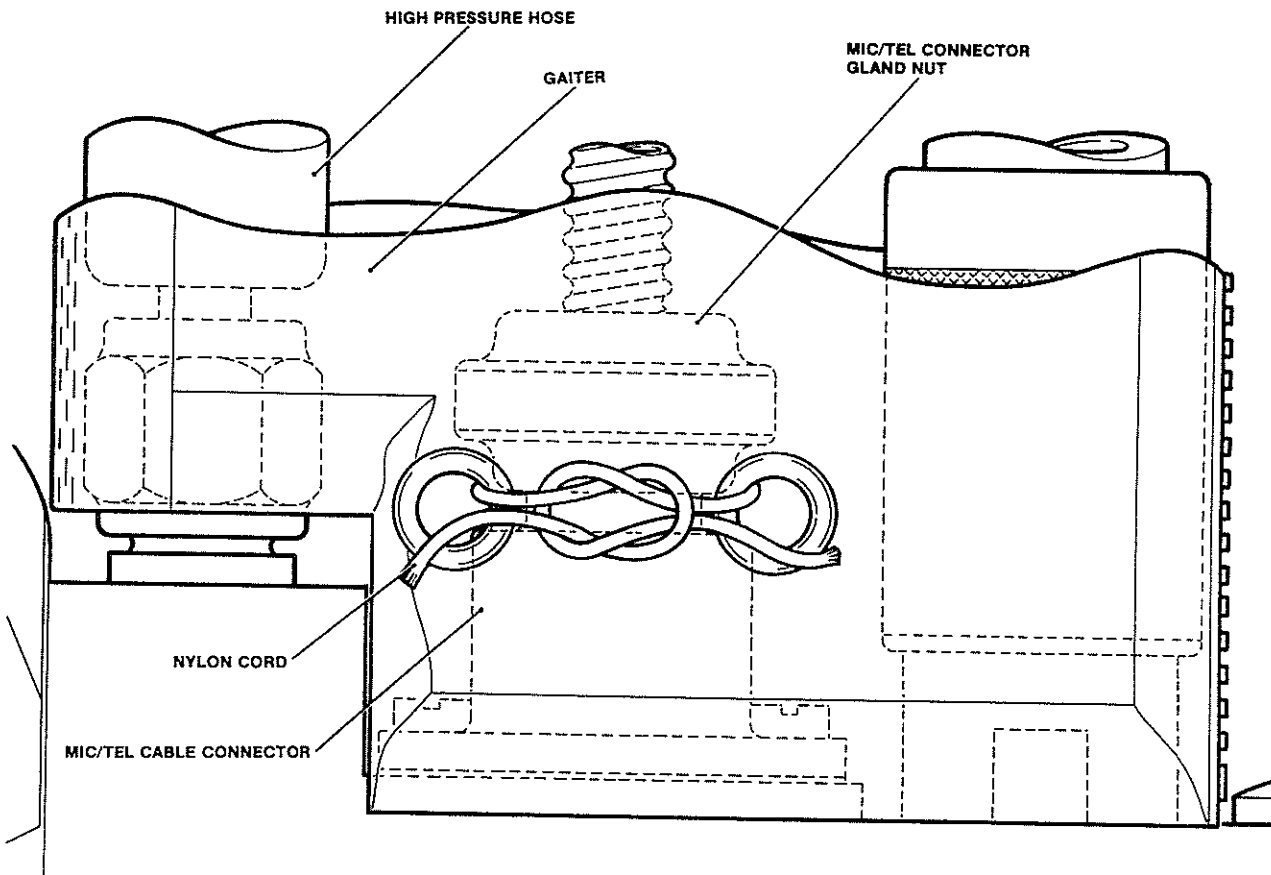

Fig 2 Tying off the gaiter cord
- 23.3 Tie the ends of the cord tightly in a reef knot, cut off the ends to a suitable length (Fig 2).